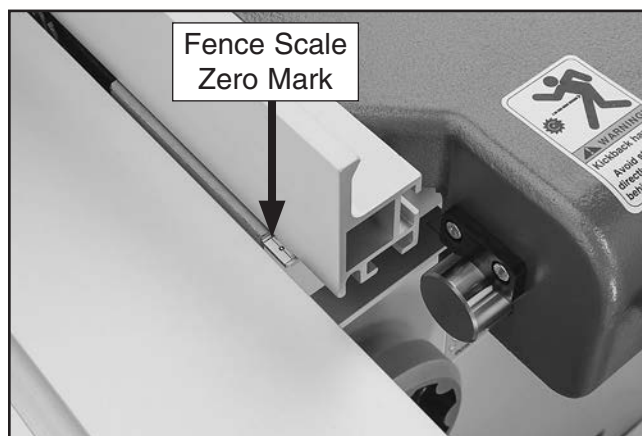

Figure 166. Rip fence scale zero mark.
4. Observe reading on scale underneath rip fence (see **Figure 166**).